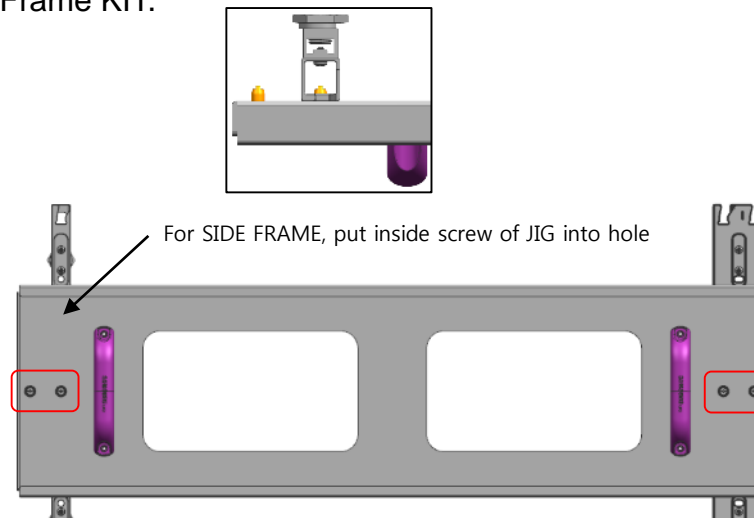

Fig2. Fix the Jig (Screw)
- ※ Second, Mount the ④ JIG inside the Bracket Hole and fasten up four(4) Screws [Fig.2]